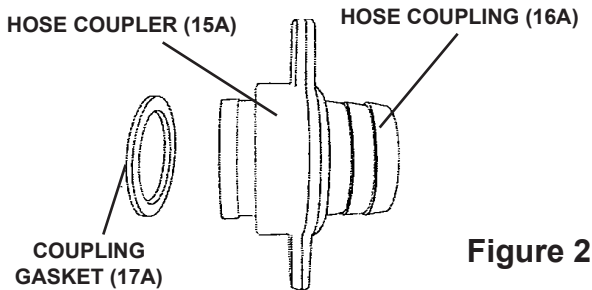

Figure 2
1. Slide Hose Coupler (15A) over Hose Coupling (16A). Insert Coupling Gasket (17A) into end of Hose Coupler. See Figure 2, below.
5. For the Discharge Hose (not included), slide the other Hose Coupler (15A) over the other Hose Coupling (16A). Insert the other Coupling Gasket (17A) into the end of Hose Coupler. See Figure 2.